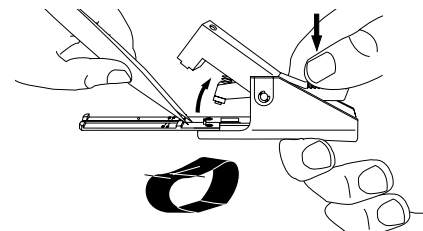

Figure 6
4.7 Press down on the cleaver's handle to once again lift the fiber clamp. Remove the end piece of fiber with tweezers and place the fiber on a loop of tape for proper disposal (Figure 6).